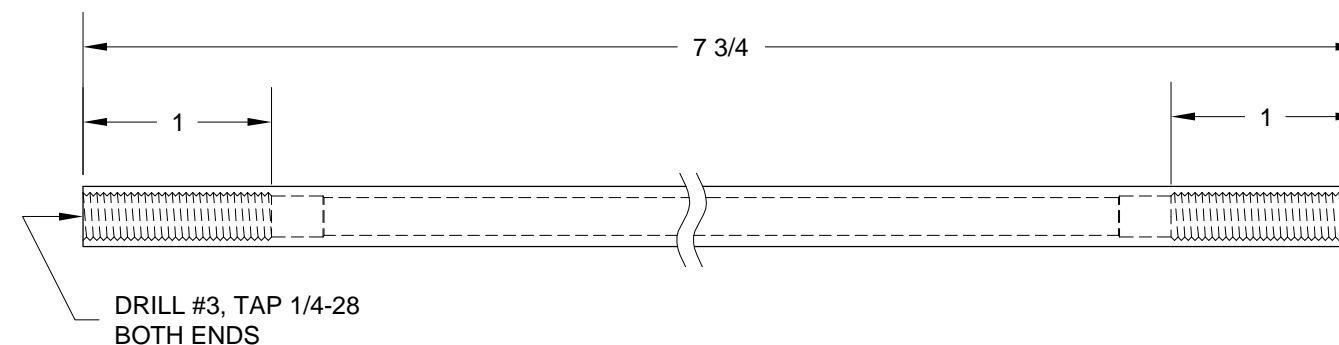

FIGURE 4: F-1264 CONTROL STICK PUSHROD
Step 4: Make two F-1264 Control Stick Pushrods from AT6-058X5/16 according to the dimensions given in Figure 4.